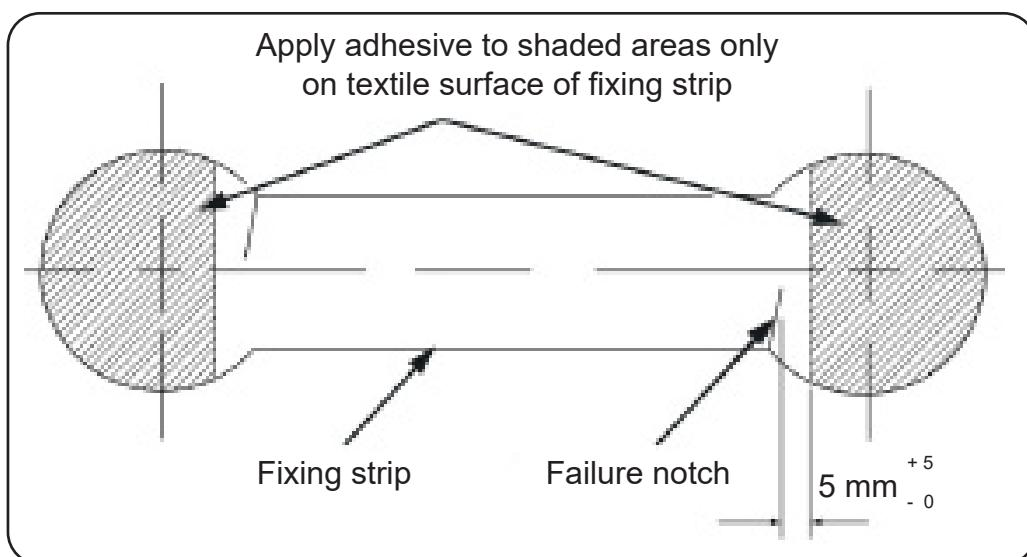

FIGURE 605
Refer to FIGURE 605. Apply adhesive only to the ends of the fixing strip, stopping 5 mm from the pre-cut notch.
- 5.10.6 Apply the textile surface of the fixing strip to the two areas of adhesive on the liferaft floor. Refer to FIGURE 605. Make sure that the righting strap webbing is secured between the fixing strip and the liferaft floor.